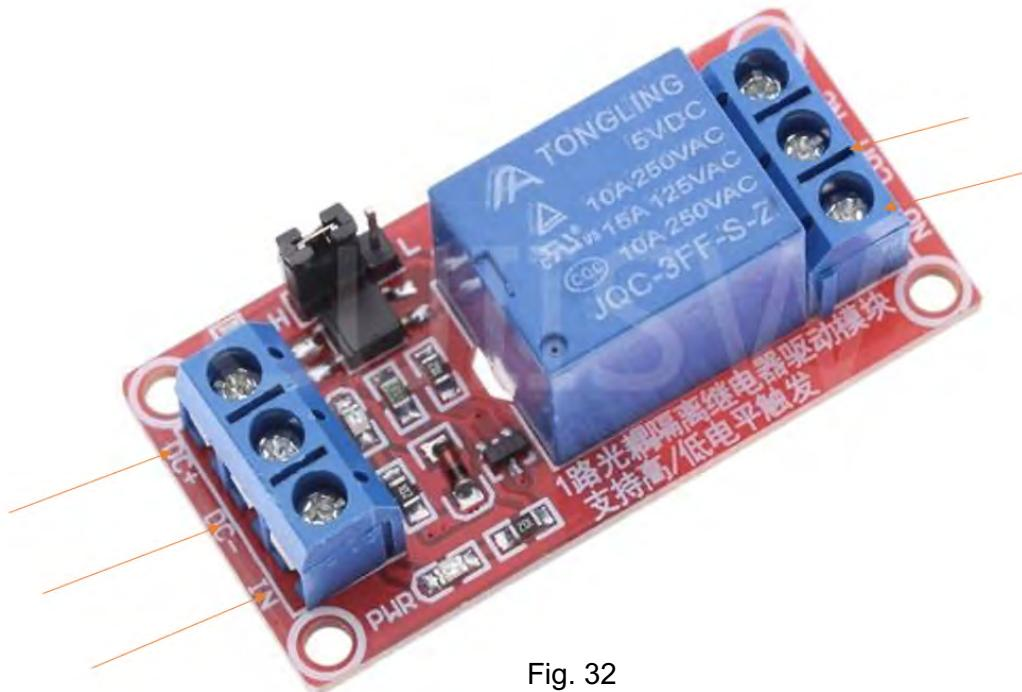

Fig. 32
4. Relays and pumps- for wiring the relays the first step is to expose an inch of the positive and negative ends of the 12v power supply then prepare these by twisting the exposed wires of the positive end together and twisting the exposed wires of the negative end together. Then cut 3 lengths of black wire 2 feet in length. Then cut 3 lengths of red wire 2 feet in length. splice these black wires onto the negative end of the power supply and splice the red wires onto the positive end of the power supply. Take each of these red wires and attach them to the "on" port of the three separate relays. Splice each of the black wires to their respective pumps. Cut another 3 lengths of red wire about 2 feet in length. Prepare the ends of these wires as previously described. Take each of these and attach one end to the "COM" port of the respective relays. Take the other end of the red wires and attach them to their respective pumps. On the control side of relays 3 lengths of yellow wire about 2 feet in length. 3 lengths of red wire about 2 feet in length and 3 lengths of black wire about 2 feet in length. Prepare the ends of these wires as previously described. Attach one end of each of the yellow wires to the "IN" port on each of the relays. Attach one end of the red wires to the "VCC" port on each of the relays. Attach one end of the black wires to the "GND" port on each of the relays (Fig. 32). Attach the yellow wires to the "IN" port on the relays and attach the corresponding relays to the yellow wires attached to pins 41 42 and 43